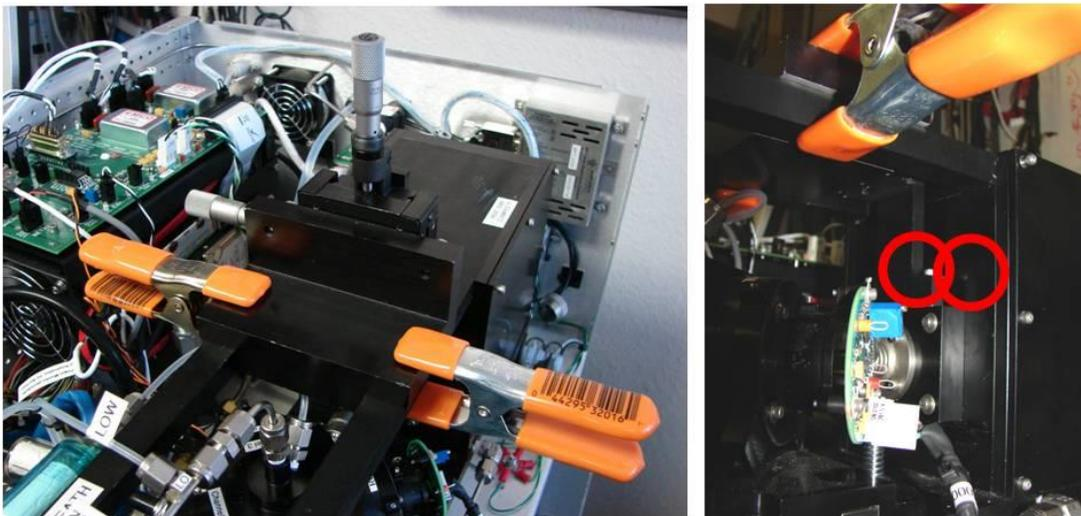
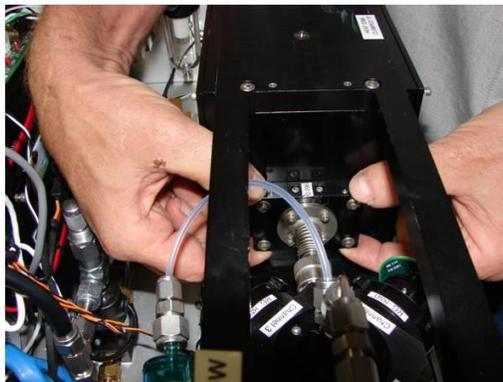

Figure 11: Attachment of Mode Aperture Alignment Tool
Figure 12: Manual mode aperture alignment
- 3.23. If the mode aperture adjustment fixture is available, install it with two clamps and two fasteners as shown in Figure 11. The adjustment of the mode aperture should be done in the chassis. It may be necessary to cut or move some of the wire ties on the top of the laser frame to mount the aperture adjustment fixture. If the adjustment fixture is not available the mode aperture can be moved manually as shown in Figure 12.